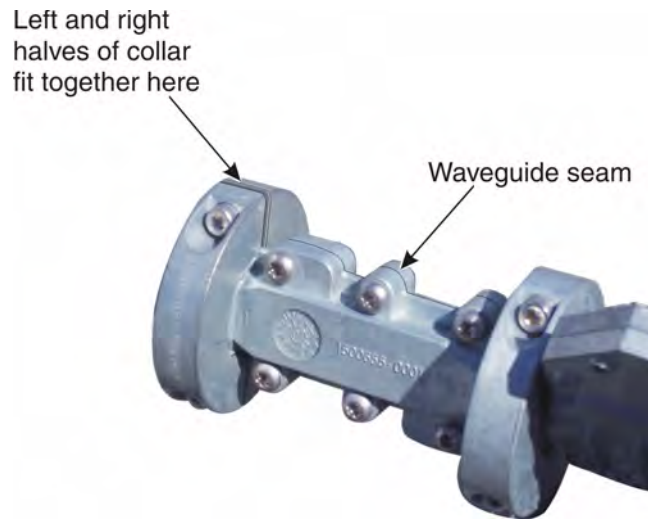

Figure 23: Aligning the collar on the waveguide
5. Rotate the collar until it seats into the notch on the feed horn. You *must* locate the notch before fully assembling the collar. Failure to do so will result in damage to the polarizer waveguide. When properly aligned, the two halves of the collar will line up with the seam on the polarizer waveguide as shown in Figure 23.